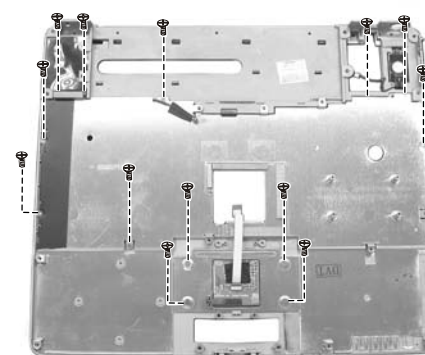

Figure 2-36 Remove the touchpad shield
3. To tack the touchpad out, remove the thirteen screws that secure the touchpad shielding. (Figure 2-36)